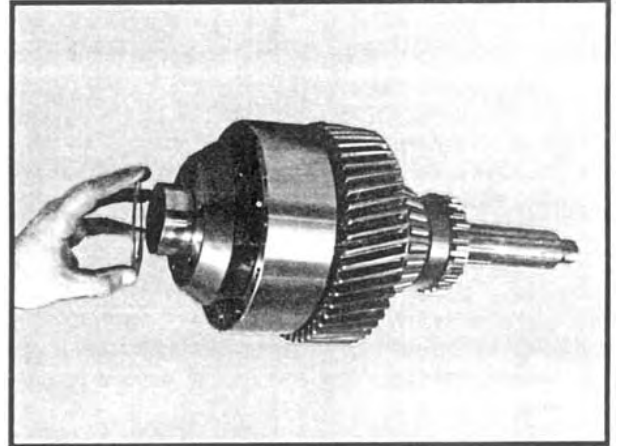

Fig 47
6. Install the internal gear over the planet gears and place the thrust washer on the gear. See Figure 47.